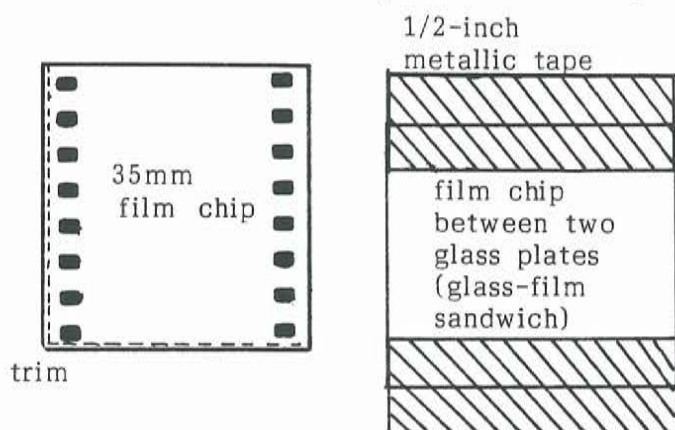
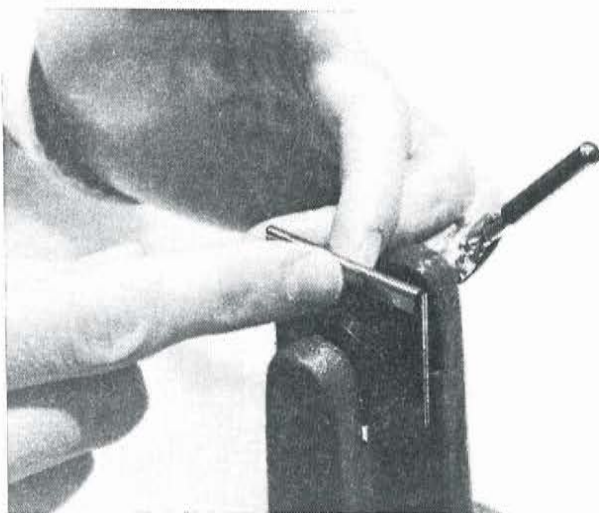

Figure 9. Left: Areas to be trimmed on film chip when using Perrot-Color mounts. Right: Tape applied to glass-film sandwich.
Figure 10. Tape being pressed against glass on long sides of glass-film sandwich.
2. Trim the film slightly (about 1/16-inch) on two adjacent sides (one short and one long side), to provide sufficient space for film expansion (Fig. 9, left). (This step is not necessary with the Wess Plastics "archival" slide mount.)
5. Center a piece of 1/2-inch polyester metallic tape, 1 1/2-inches long, over the long side of the glass-film sandwich (Fig. 9, Right). Firmly press down on both sides of the glass (Fig. 10). Repeat for the other long side.